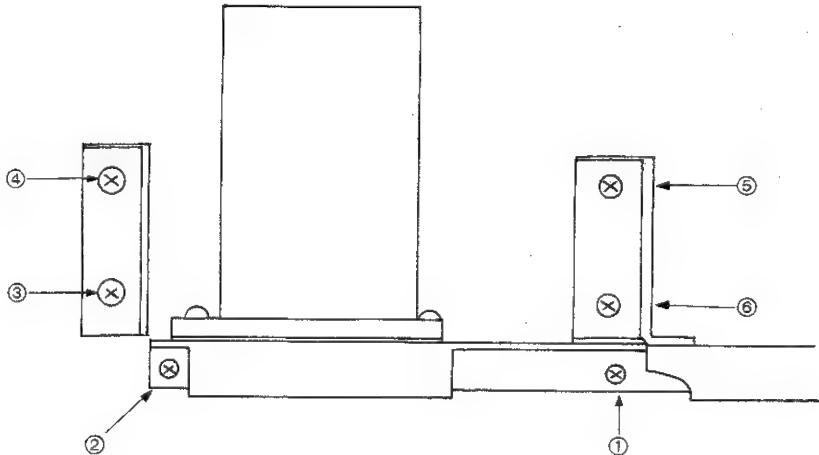

Figure 34 Rear View of Rotational Mechanism Unit (at Right Side)
(7) Remove the screws ①, ②, ③, ④, ⑤ and ⑥ shown in Fig. 34 from the rotational mechanism unit (at right side), and detach the rotational mechanism unit from the writing sheet board. The same procedures apply to removal of the left rotational mechanism unit.
- (1) Referring to the assembly drawing of the rotational mechanism unit shown in Fig. 34, align the screw holes of the rotational mechanism unit with those of the writing sheet board. Then temporarily fix the screw ①; this screw is used as a datum screw to decide the accuracy of the rotational mechanism unit.
- (2) Also referring to Fig. 34, temporarily fix the screw ② which is used to decide the accuracy in the vertical direction and secure the screw ① completely. Then secure the screw ② firmly and fix the screws ③, ④, ⑤ and ⑥ in this order.
- (3) The same procedures apply to reassembly of the left rotational mechanism unit.
- (4) Attach the writing sheet board, with the rotational mechanism unit secured on it, to the main body and